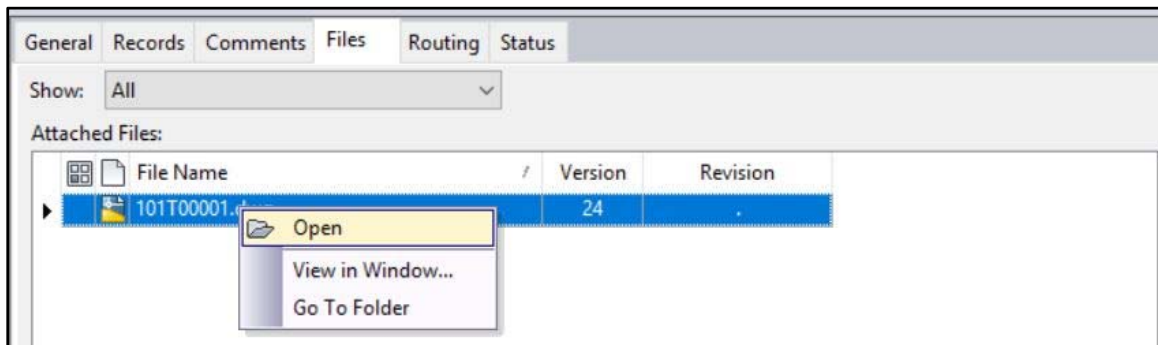

Figure 4-2, Menu Options - Open
- a. Reference Figure 4-2, Menu Options - Open below for an example of the screen at this step